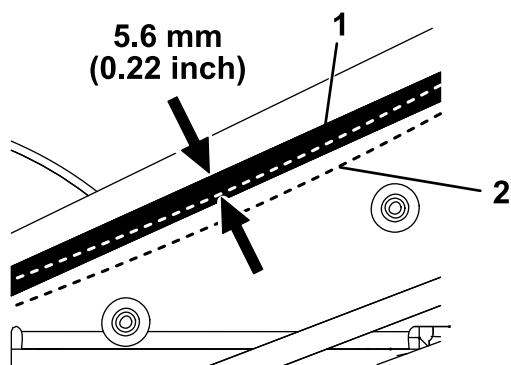

**Figure 11**
8. Tighten the jam nut on the tensioner bolt (Figure 11).
10. Install or tighten the fasteners securing the engine to the frame (Figure 11).